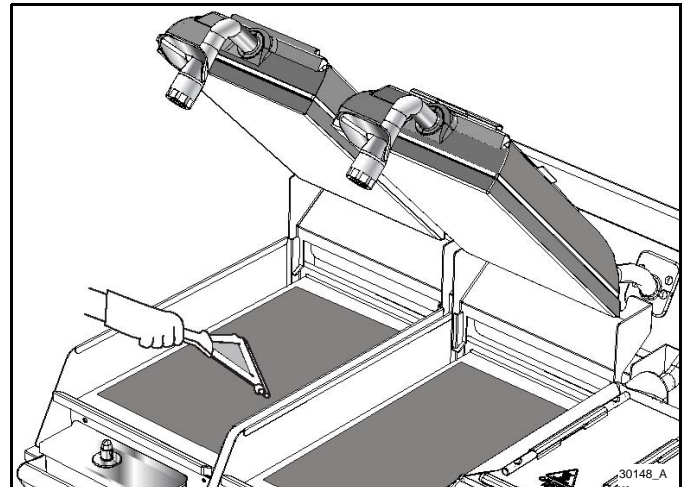

Figure-38
- Using the grill squeegee, gently squeegee out the air bubbles, making sure not to crease or fold the release sheet. See Figure-38.